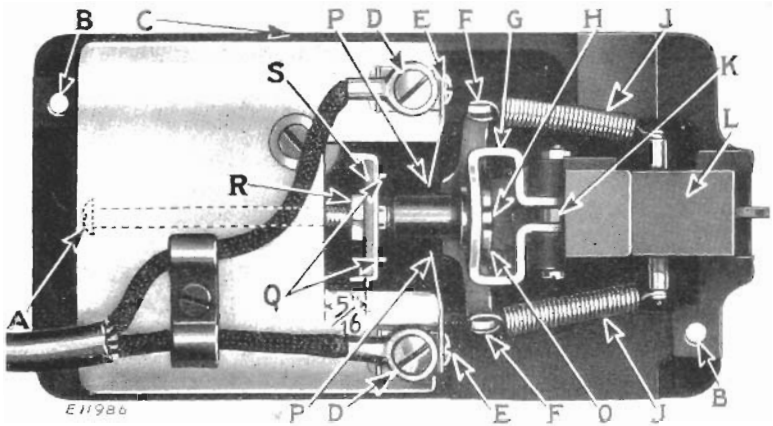
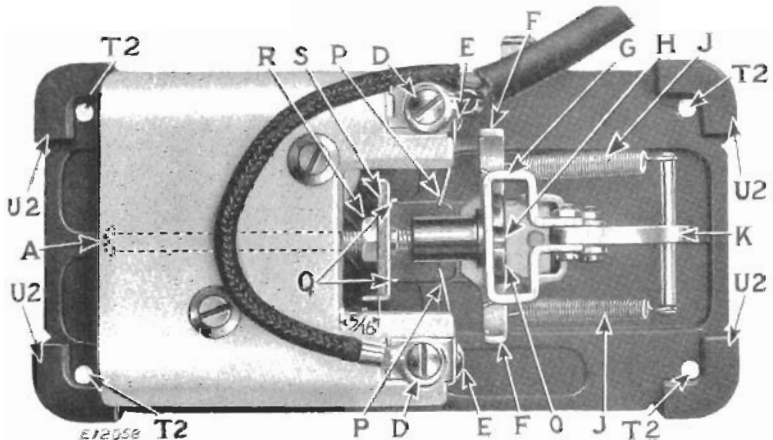
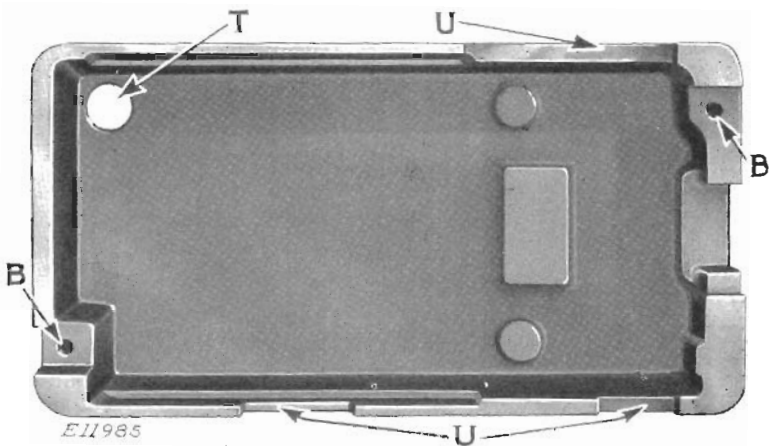
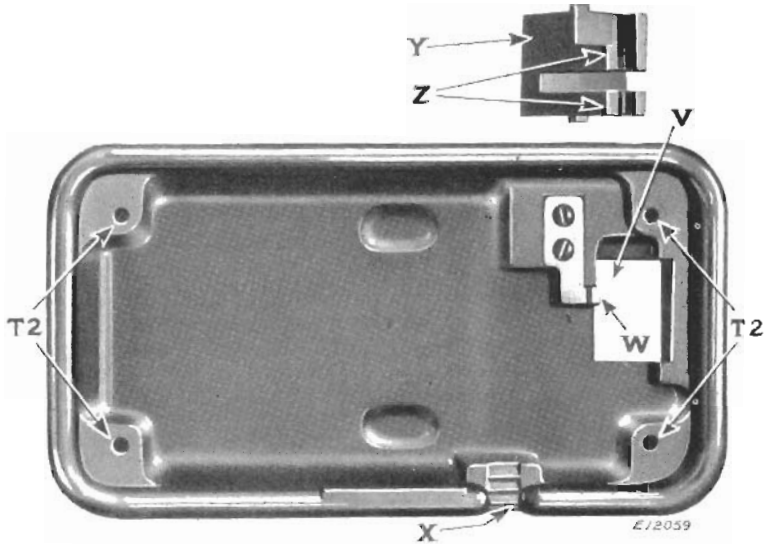

FIG. 26. BAKELITE TREADLE CONTROLLER—COVER REMOVED
FIG. 27. BAKELITE CONVERTIBLE FOOT AND KNEE CONTROLLER
FIG. 28. INSIDE VIEW OF BAKELITE TREADLE CONTROLLER COVER
FIG. 29. INSIDE VIEW OF COVER OF BAKELITE CONVERTIBLE FOOT AND KNEE CONTROLLER—SHOWING PEDAL DISENGAGED FROM COVER
Treadle Controller. Remove the controller from the stand to which it is attached, and remove the controller leads from the cabinet. Remove the two screws which fasten the cover, Fig. 28, to the base, Fig. 26, at (B), and lift the cover from the base. Inspect the wires and connections at (D, Fig. 26).
Convertible Foot and Knee Controller. Remove the complete controller and leads from the cabinet. Remove the four screws which fasten the cover, Fig. 29, to the base, Fig. 27, at (T2). If, after removal of these four screws, the cover adheres tightly to the base, **do not attempt to pry it off, as such procedure would mar or break the cover or base or both.**
With the four fastening screws removed, hold the controller in the left hand and, with the right hand, press the pedal (Y, Fig. 29) all the way down. This will disengage the base from the cover. Inspect the wires and connections at (D, Fig. 27).
(See Fig. 26, showing the Bakelite Treadle Controller, or see Fig. 27, showing Bakelite Convertible Foot and Knee Controller.
(a). When the crank (K) is at the "off" position with its lower end resting upon the base of the spring bracket (F), the face of the Bakelite strip (S) should be $\frac{5}{16}$ inch from the flat face of the porcelain, as shown in Figs. 26 and 27. If this distance is not $\frac{5}{16}$ inch, release the insulated nut (O) from its seat by pushing on the end of the pull rod at (A) and turn the nut (O) until the correct adjustment is obtained. Be sure that the nut (O) seats in the yoke (G) and that the pin (H) of the yoke engages one of the four notches in the head of the nut (O).
(b). Pull back the moulded link (L, Fig. 26) as far as it will go, against the tension of the springs (J), for full speed position of the **treadle controller**.
Press down the crank (K, Fig. 27) as far as it will go, for full speed position of the **convertible foot and knee controller**.
treadle controller, Fig. 26, while the lower notches are for the loops of the springs (J) used in the convertible foot and knee controller, Fig. 27. Make sure that these springs (J) are properly attached, as shown in Figs. 26 and 27.
Replace the Cover—Treadle Controller. (See Fig. 28). Pass the controller leads through the opening (T) in the cover;
CAUTION. When inserting the two self-threading fastening screws at (B, Figs. 26 and 28), feel carefully with the screws to **insure that the threads on these screws coincide with the threads previously cut in the cover by the original insertion of these screws.**
(See Fig. 29.) Probably the pedal (Y) became separated from the cover as the latter was removed from the controller base. Note that its replacement in the cover is not possible except in the correct manner, viz: Insert from the inside of the cover and with one of the two long projections (Z) against the metal guide (W).
See that the rubber pads (U2, Fig. 27) are firmly in place on each corner of the base, as shown in Fig. 27.